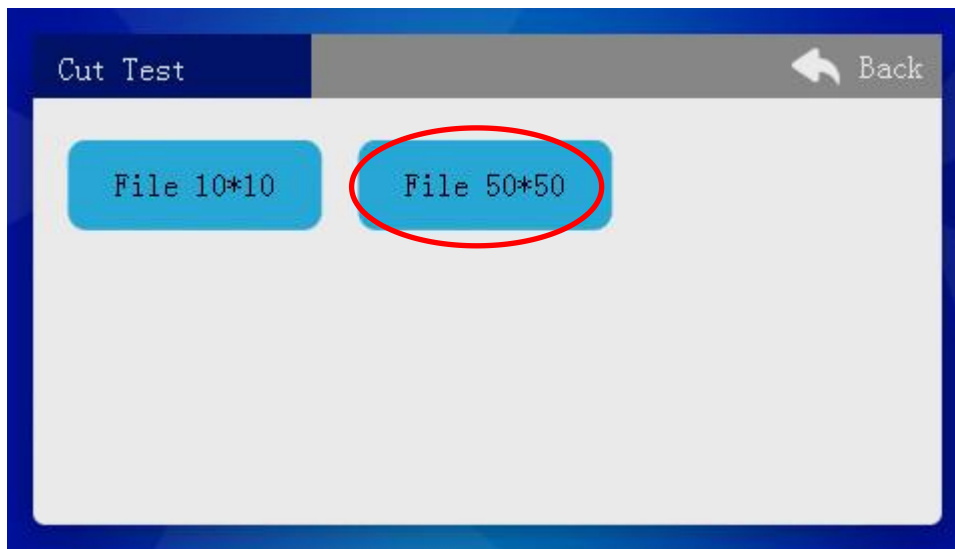

figure 4
1. Select the "accuracy 50 \* 50" internal storage file for testing by operating touch screen [setting] into [test Cut]. Figure 4